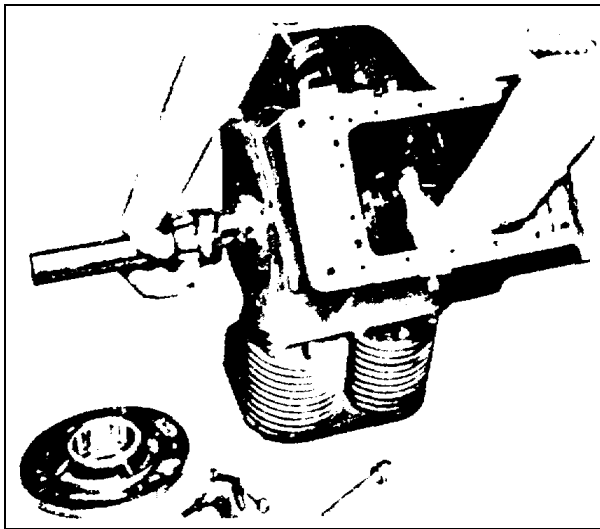

Figure 4-17. Removing Crankshaft
(8) Remove six cap screws in main bearing plate at take-off end of engine. Pry plate off and remove crankshaft from that end of crankcase (figure 4-17).